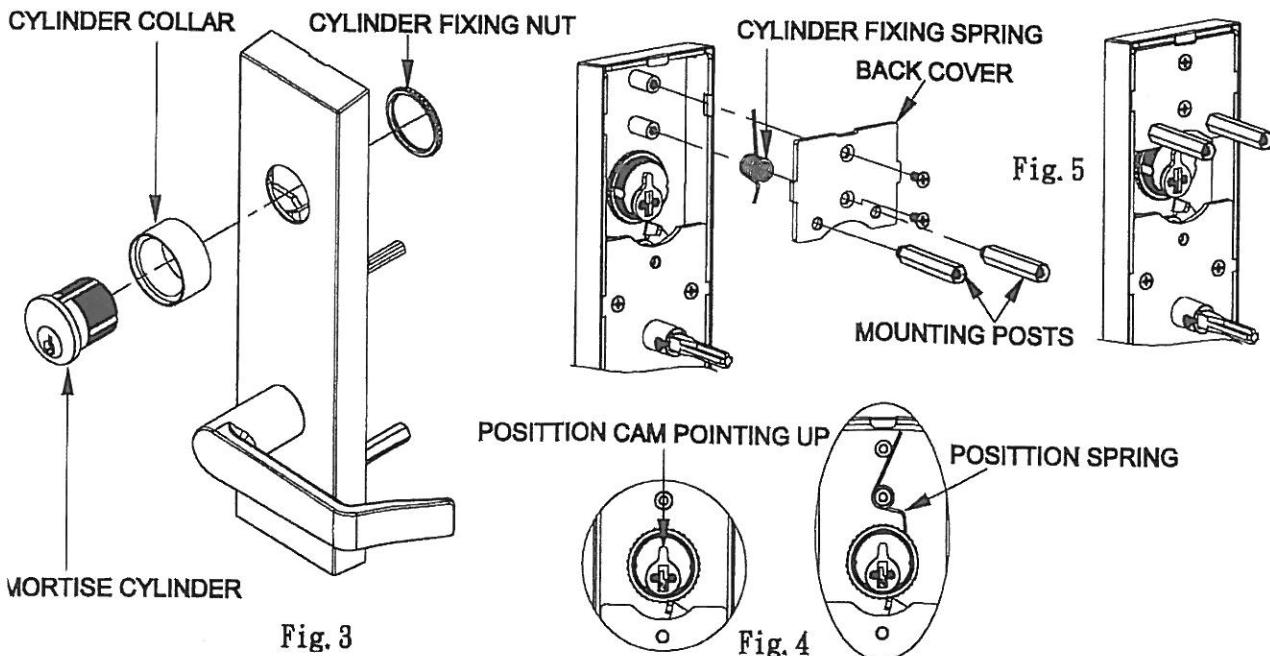

Fig. 3
1. Attach the collar and mortise cylinder to the ESC case with mortise nut.(Fig.3)